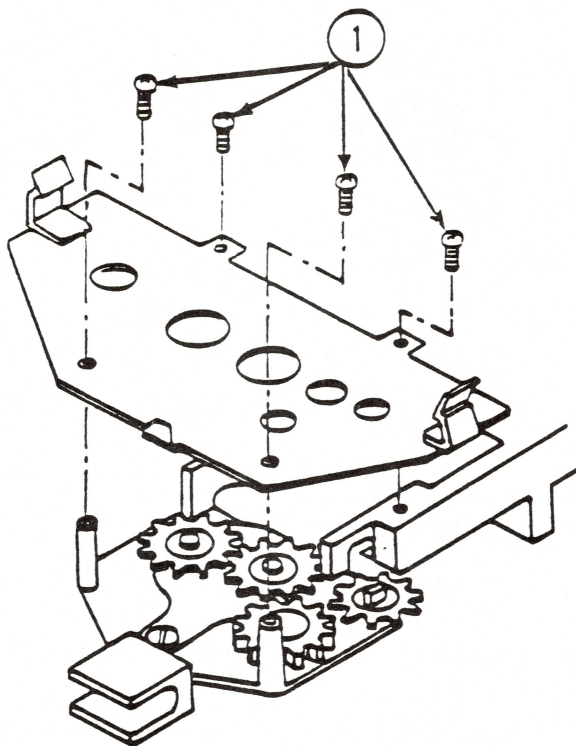

FIGURE 3
4. Remove the four cartridge mount plate fixing screws (see Figure 3, #1).